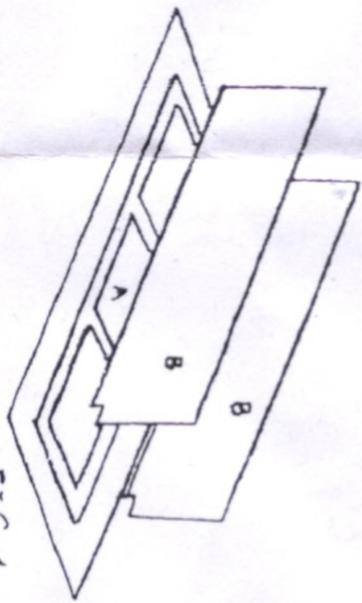

FIG. 1
STEP 1: Place Front Frame (A) face down on carpeted area. With grooved sides facing each other, insert two side panels (B) into grooves on Front Frame (A) with assembly connectors fit together snugly. Turn cam screw clockwise to fasten - Fig. 1